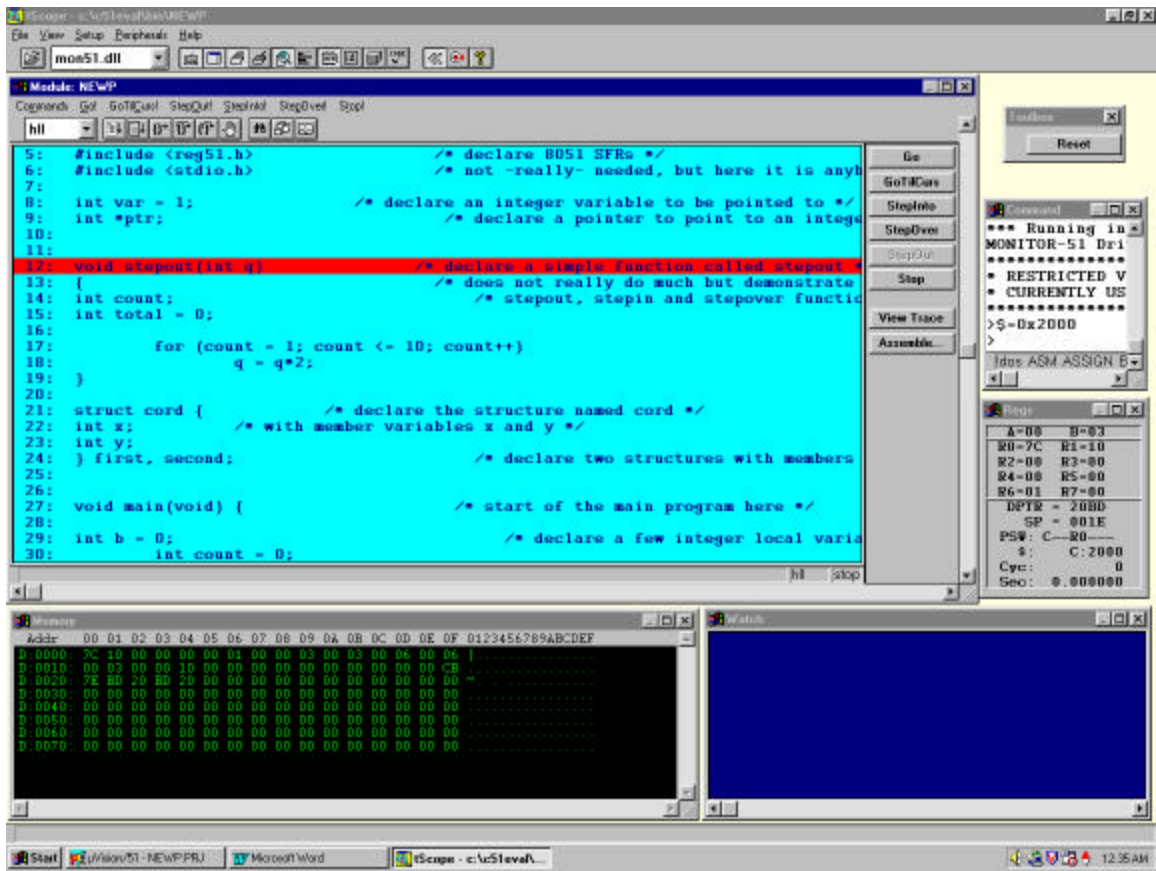

FIGURE 13
- 5) You should now see the source in the Debug window as in Figure 13 depending on how you set your windows. You can single step using the StepInto icon. You are now ready to use the dScope window (really tScope) to step through code, set breakpoints, and issue the Go command to start program execution. You can examine special function registers, memory locations, and register values, etc.